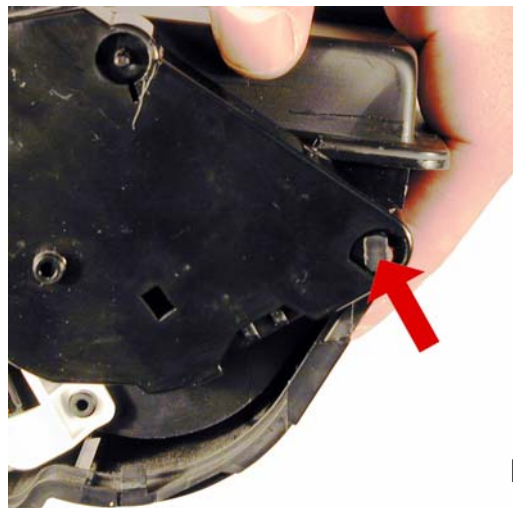

Figure 65
59) Rotate the remaining end cap and partially install on the frame so that the rear tab locks into place. See **Figure 65**